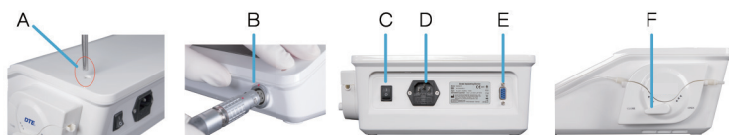

Fig.6
⚠ Danger: Do not install the device on or in the vicinity of sources of heat. Install it such a way that there is an adequate circulation of air around it. Leave sufficient free space around it, in particular with reference to the fan on the rear. (Fig.6)
6.3.2 Insert the rod for supporting the bag into the holes provided for it (Fig.6—Ref.A);
6.3.3 Connect the foot pedal to the casting of the device by inserting the plug into the foot pedal socket (Fig.6—Ref.E);
6.3.4 Plug the power cable into the connector on the casting of the device (Fig.6—Ref.D) and then into the power outlet;
6.3.5 Insert the tube of Ai-surgery cord to the cord connector on the device (Fig.6—Ref.B);
6.3.9 Press the button “on/off” (Fig.6—Ref.C), then can use the device.
7.5.4 Make sure that the Ai-surgery handpiece is correctly connected to the handpiece connector (Fig.6-Ref.B);
7.8 When the equipment is finished, turn off the power switch, press the button “off” (Fig.6—Ref.C), then remove the power plug.